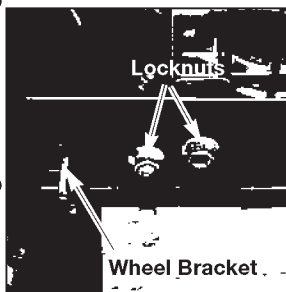

Figure 4
4. Using two screws (8) and two lock nuts (7) install the wheel bracket (3) on the bottom left side of the engine support as shown in Figure 4. Do not tighten.